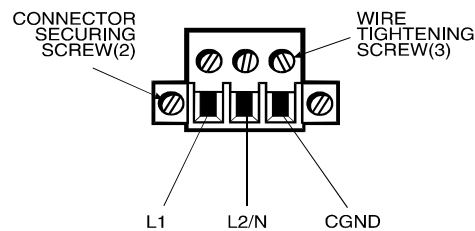

Figure 3-5. AC Power Connector
4. Insert the three wire ends of the power cable into the three holes of the block plug. Insert the Protective Earth GND ground, L1, and L2/N wires into the corresponding holes, as shown in Figure 3-5. Be sure that no bare wires are exposed.